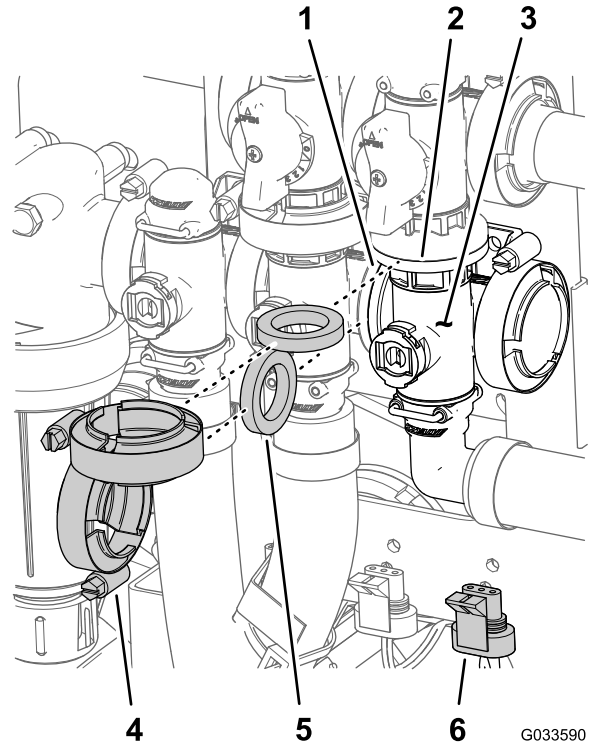

Figure 126
- Align the flange of the master-boom-valve manifold, a gasket, and the flange of the master-boom bypass valve (Figure 126).
- Assemble the master-boom valve manifold, gasket, and master-boom bypass valve with a flange clamp tightened hand tight (Figure 126).
- Align the flange of the master-boom-valve manifold, a gasket, and the agitation-valve manifold (Figure 126).
- Assemble the master-boom-valve manifold, gasket, and agitation-valve manifold with a flange clamp and tighten by hand (Figure 126)
- Assemble the agitation valve to the valve mount with the flanged-head bolt and flanged locknut (Figure 126) that you removed in step 3 of Removing the Master Boom Manifold Valve \(page 79\) and torque the nut and bolt to 10 to 12 N·m (90 to 110 in-lb).